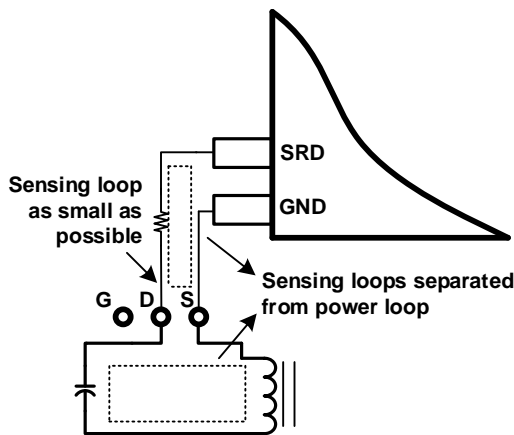
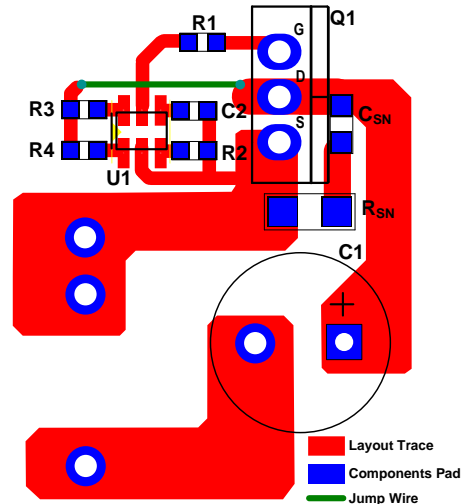
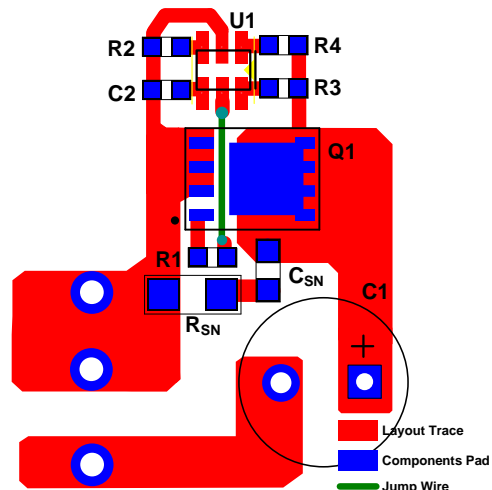

Figure 11: Voltage Sensing for SRD/GND
Figure 12: Recommended PCB Layout with TO220 Package SR MOSFET
Figure 13: Recommended PCB Layout with PowerPAK/SO8 SR MOSFET
PCB layout is critical for stable operation for the SR IC. For the best results, refer to Figure 11, Figure 12, and Figure 13, and follow the guidelines below.
3. Keep the IC out of the power loop to prevent the sensing loop and power loop from interrupting one other (see Figure 11).
Figure 12 shows a layout example of a single layer with a through-hole transformer and a TO220 package SR MOSFET.
Figure 13 shows another layout example of a single layer with a PowerPAK/SO8 package SR MOSFET.